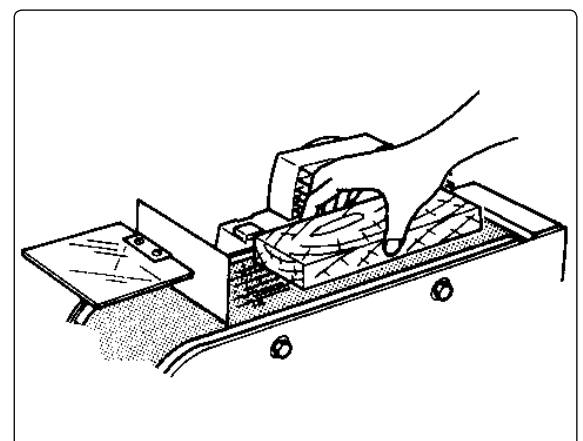

fig 12
- For sanding a large flat workpiece, remove the belt cover. Hold workpiece on the flat surface of the abrasive belt to complete task (fig12). Use the stop plate to rest work against.